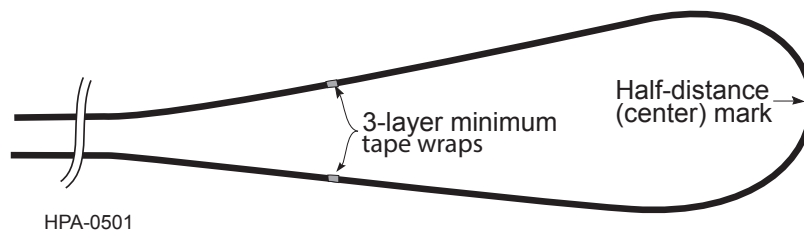

Figure 17
Step 4: Wrap each of these points with at least 3 wraps of vinyl tape. The total length from tape wrap to tape wrap should equal the full desired strip length (Figure 17). *These wraps will permanently remain on the cable.*